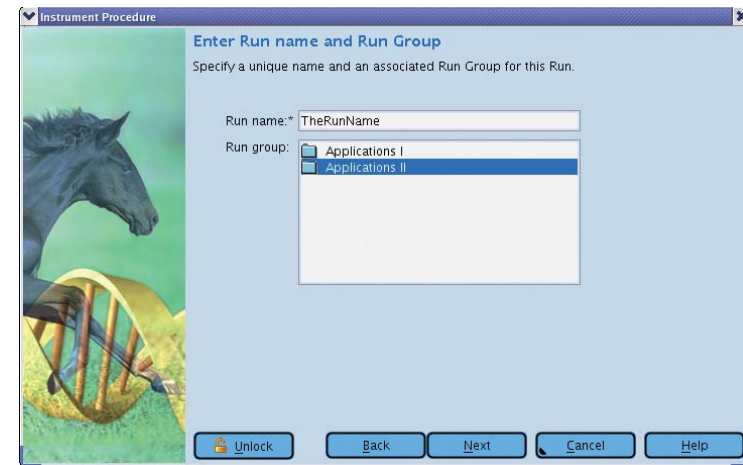

Figure 21: The Run Wizard's third window: Enter Run name and Run Group
▶ This opens the Run Wizard's third window: Enter Run name and Run Group (Figure 21).